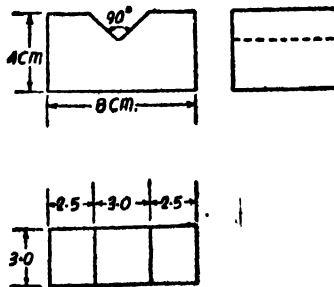

Fig. 5.28
5. Fig. 5.28 shows three views of a C.I. V-block. Calculate its weight, if the density of material is 7.8 gm./c.c.